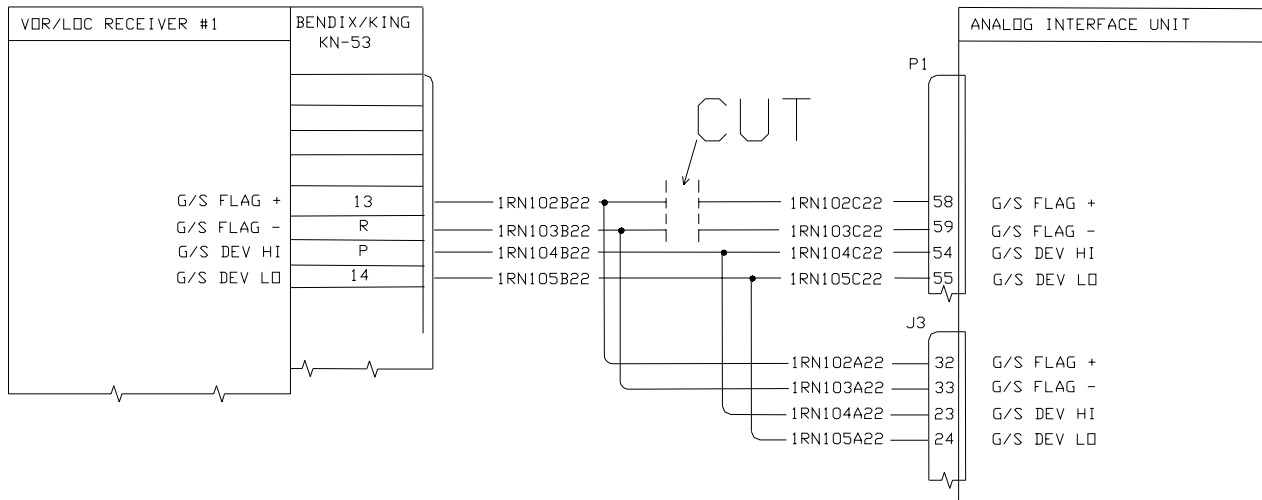

Figure 1
2. Cut the Glideslope +Flag and Glideslope –Flag wires approximately 6 inches from the AIU J1 connector (See Figure 1).